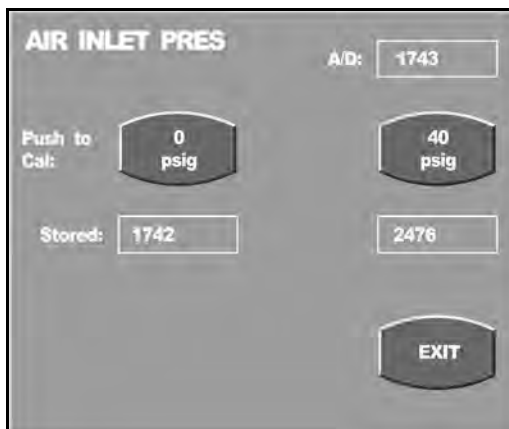

Figure 7.24 Air Inlet Calibration screen
1. Press the AIR INLET PRES touch screen button from the calibration screen to access the Air Inlet Pressure calibration screen as shown in figure 7.24.